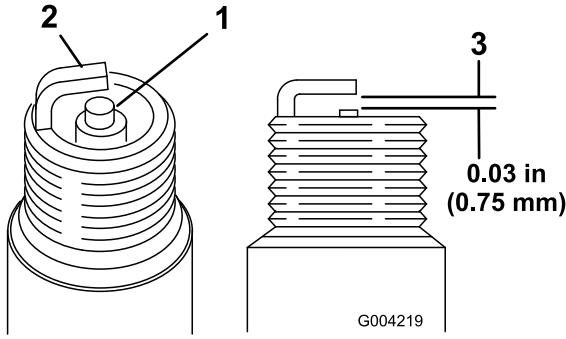

Figure 47
- Look at the center of both spark plugs (Figure 47). If you see light brown or gray on the insulator, the engine is operating properly. A black coating on the insulator usually means the air cleaner is dirty.
2. Check the gap between the center and side electrodes (Figure 47).
3. Bend the side electrode (Figure 47) if the gap is not correct.